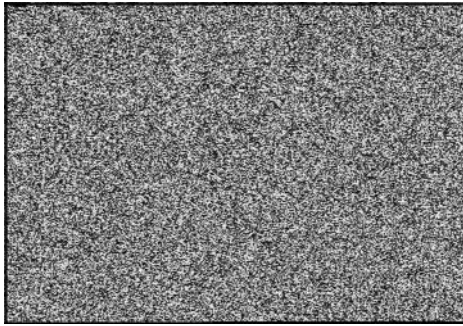

Figure 14
1. Remove screws (A, Figure 14) holding muffler guard to muffler.